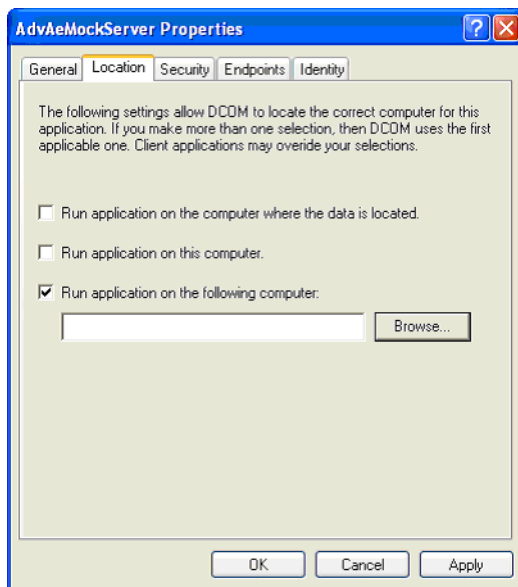

Figure 275. Properties
4. Select the Location tab and deselect the **Run application on this computer** check box. Select the **Run application on the following computer** check box and browse to the machine where the OPC AE server should be instantiated. See Figure 275.